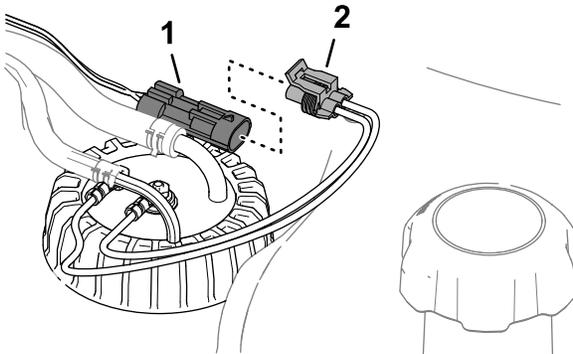

Figure 92
3. Remove the 2-socket connector of the fuel-sender harness from the 2-pin connector of the machine wire harness (Figure 92).